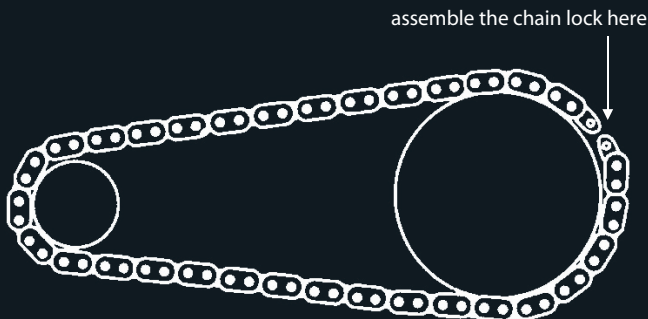

Fig. 3
- Fit the chain on the chain wheel and pinion and loosely connect the ends with the prepared part of the chain lock. To do this, slide the bolts through the open sleeves on the two chain ends. In doing this, it can be helpful to fit the open ends of the chain on the chain wheel for the purpose of fixing the chain (Fig. 3).